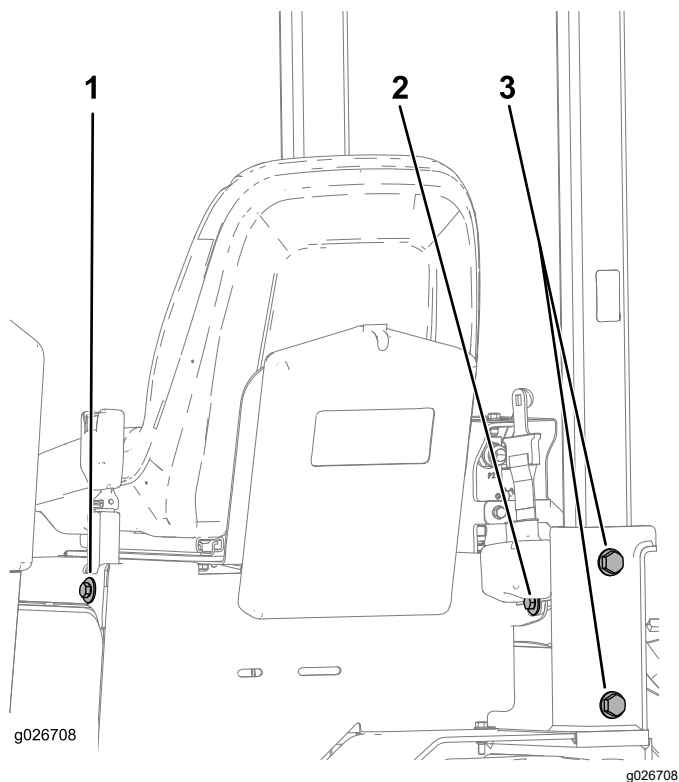

Figure 47
1. Check that the 4 bolts that secure the ROPS bar to the chassis of the machine are torqued to 203 to 223 N·m (150 to 165 ft-lb); refer to Figure 47.
2. Check that the bolts and nuts that attach the seat-belt retractor and buckle to the seat are torqued to 104 to 115 N·m (77 to 85 ft-lb); refer to Figure 47.